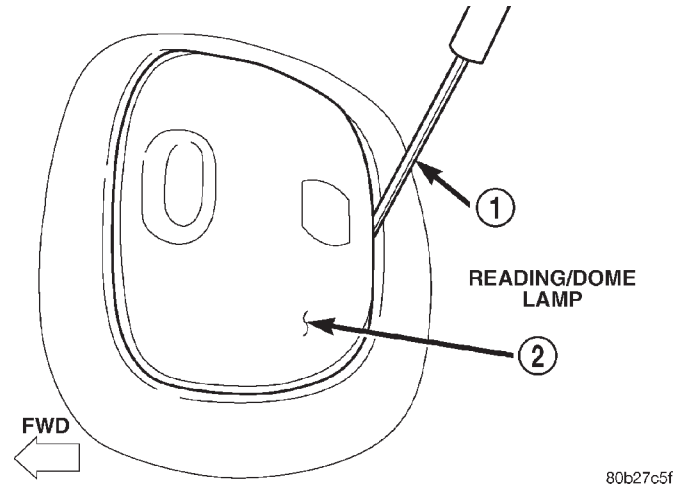

Fig. 9 Lamp Lens
- (1) Using a small flat blade, pry the center rearward edge of the dome/reading lamp lens downward from lamp (Fig. 9).